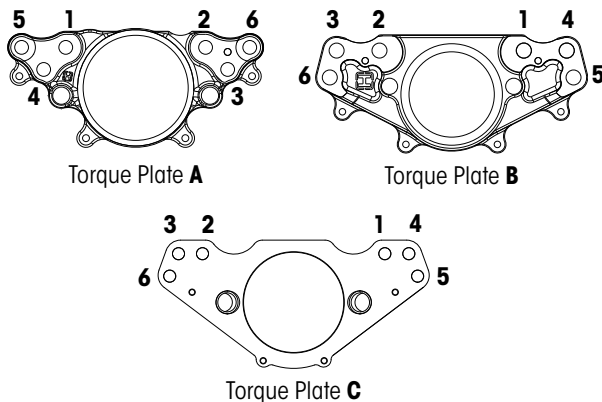

Figure 7: Torque plate torque sequence
6. Tighten mounting screws, in sequence shown in Figure 7, to the specified torque listed in Table 2.